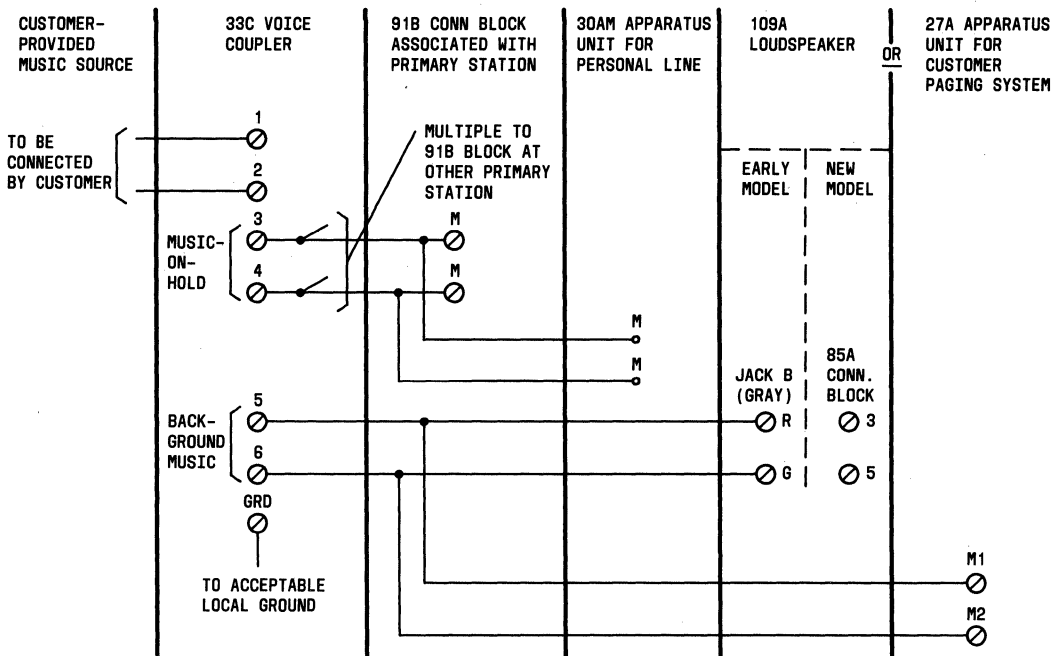

Fig. 24—Connections for Music-On-Hold and Background Music
- (c) Connect terminals 3 and 4 of the 33C coupler to the primary stations via the two M terminals of the 91B connecting blocks using inside wire (Fig. 24). Connect GRD terminal to building ground.
music-on-hold (the same coupler can be used for both functions), and connect as shown in Fig. 24.
- (4) If background music is to be provided over the 109A loudspeaker, install a 33B voice coupler if one is not already used for music-on-hold (the same coupler can be used for both functions) and connect as shown in Fig. 24.
both functions). Connect screw terminals 5 and 6 of the coupler to screw terminals M1 and M2 of the 27A unit (Fig. 24 and 31). Connect GRD terminal to building ground.